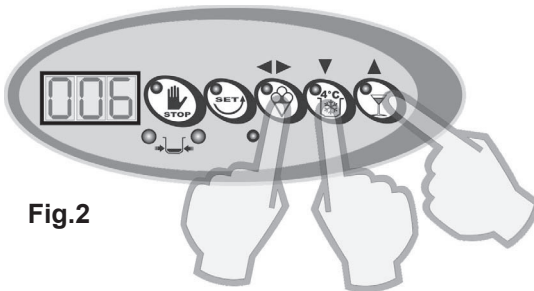

Fig.2
4. Press the "**CREATIVE** (▲)" "**PRESERVATION** (▼)" and "**PRODUCTION** (◀▶)" keys to enter the password and then confirm it (fig.2). If you do not know the password, contact the Frigomat assistance service.